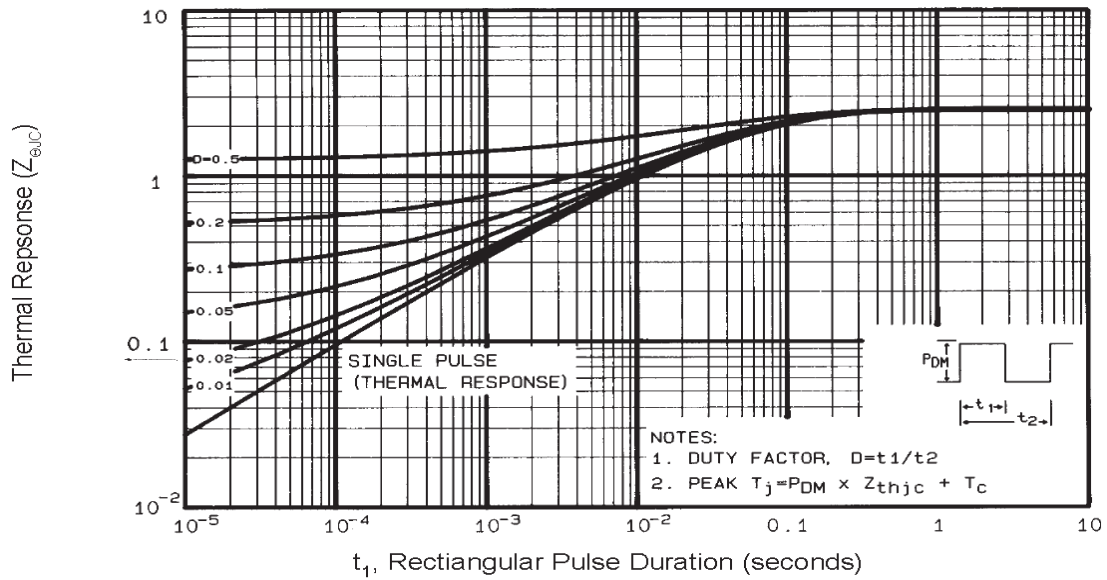

Fig. 11 Maximum Effective Transient Thermal Impedance, Junction-to-Case
① Repetitive rating; pulse width limited by max. junction temperature. (See fig. 11)